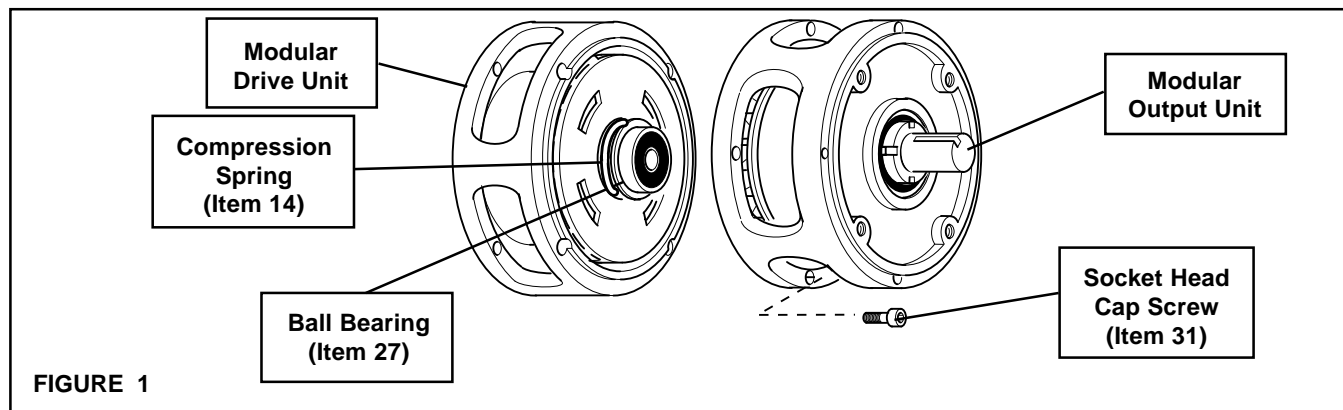

FIGURE 1
1. Place the Modular Drive Unit (MDU) on a table with the Ball Bearing (Item 27) facing up and properly seated against the Retaining Ring on Models 625, 875, and 1375 or the Hub on Model 1125 (See Figure 1).
2. Set the Modular Output Unit (MOU) onto the MDU, making sure the Ball Bearing (Item 27) is fully seated into the bore of the MOU (See Figure 1).
3. Rotate the MOU until the four clearance holes are aligned with the four MDU tapped holes (See Figure 1).
(Item 14) until the faces of both units are flush (See Figure 1).
5. Using the four Socket Head Cap Screws (Item 31), secure the MOU to the MDU (See Figure 1).
6. Alternately and evenly tighten the four Socket Head Cap Screws (Item 31) to 50 Ft. Lbs. [69 N•m] torque (See Figure 1).